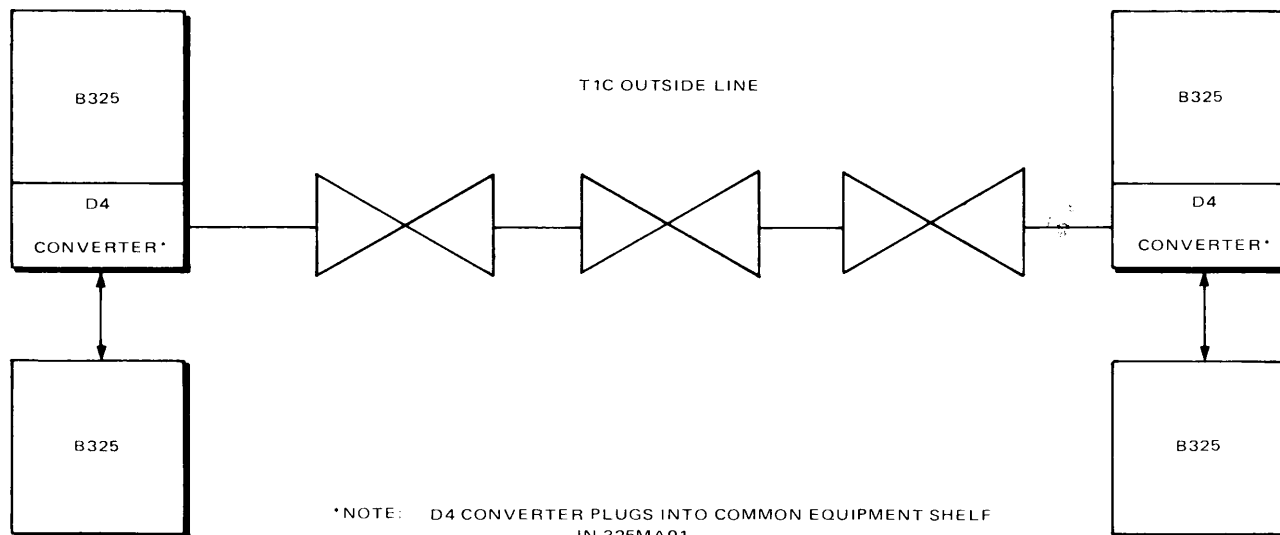

Fig. 3—T1C Applications
2.07 See Fig. 3 and 4. Two B325 terminals and a single D4 converter unit expand the B325 output to 48 channels, for use over a T1C line. The B325 is compatible, end-to-end, with other type D4 channel banks. Four B325 terminals (96 channels) will operate end-to-end with any four D2/D3 channel banks via a four-port M1-2 type multiplexer and T2 span line.